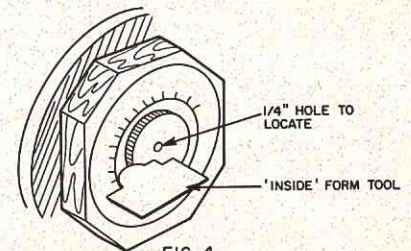

FIG. 4
i) Make a half-pattern of the "inside" size of the tire. This pattern is opposite to the "outside" pattern, in that it is a female, or concave shape. (Fig. 4)